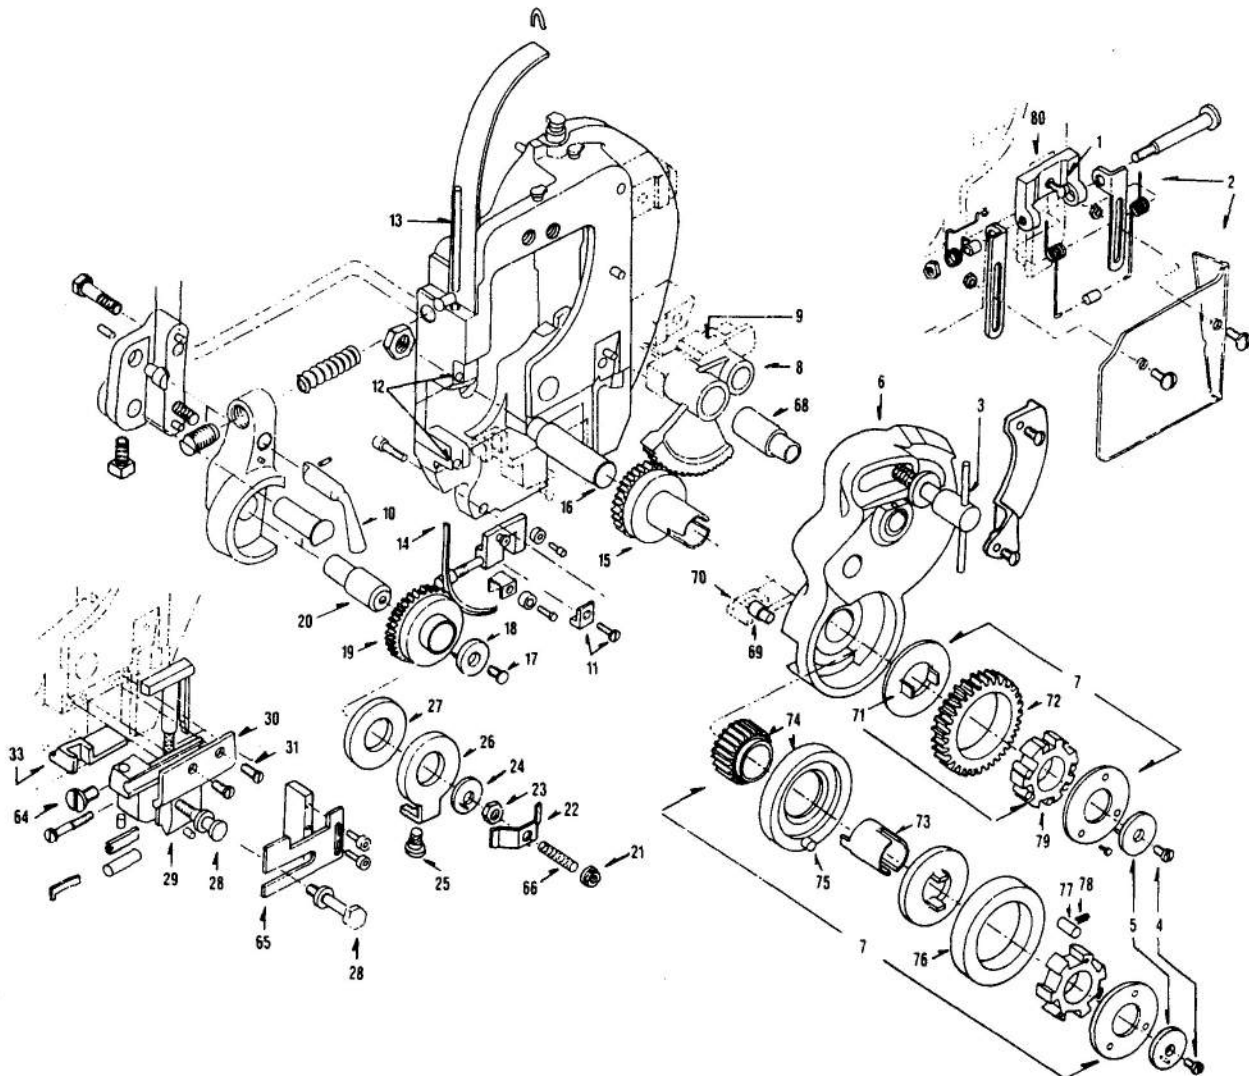

Figure 21 — Disassembling and Reassembling Stitcher Head
(See Fig. 21)
Figure 21 illustrates the disassembling and reassembling procedures only and is not intended to identify parts for purposes of ordering parts. For ordering parts see Fig. 22 and 23, and the accompanying Parts List.
a. HOW TO REMOVE WIRE FEED, WIRE CUTTING, AND GRIPPER ASSEMBLIES (See Fig. 21).
b. HOW TO REMOVE WIRE FORMING AND DRIVING ASSEMBLIES (See Fig. 21).
c. HOW TO REINSTALL WIRE FORMING AND DRIVING ASSEMBLIES (See Fig. 21).
d. HOW TO REINSTALL WIRE FEED, WIRE CUTTING, AND GRIPPER ASSEMBLIES (See Fig. 21).